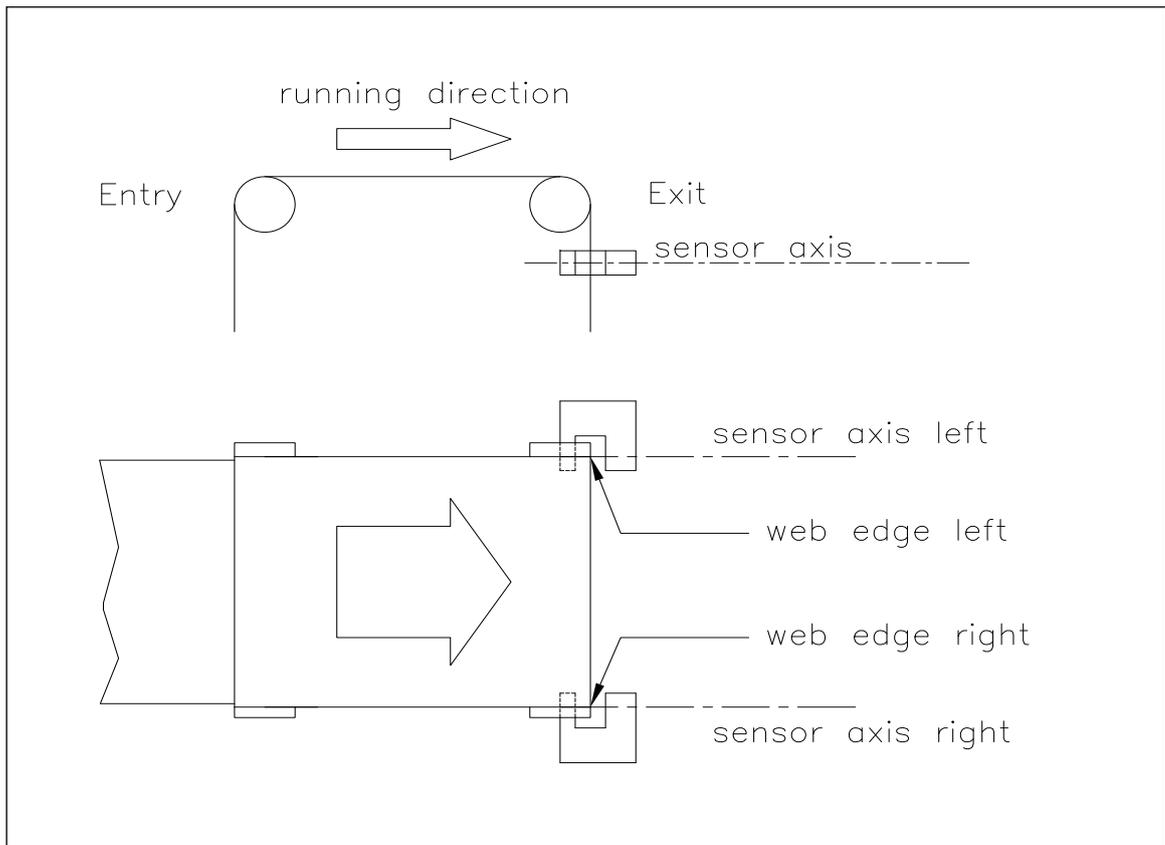

Fig. 2: Position of the sensors according to the web
-  Make sure that the sensor(s) are connected properly to the electronic unit by means of the delivered cables. For left / right orientation please refer to Fig. 2. If the connections are crossed over, malfunction can be the result.**
They have to be installed after the outbound roller. Mount them as close as possible to the steering frame (see **Fig. 2**). The sensors are connected to the web guide controller by means of the delivered orange cables. Refer to the operation manual AZS01, US01B for further information about the sensors.
Left and right are always seen in direction of the running web (see Fig. 2).
*Make sure that the sensor(s) are connected properly to the electronic unit by means of the delivered orange cables. For left / right orientation please refer to Fig. 2. If the connections are crossed over, malfunction can be the result.*